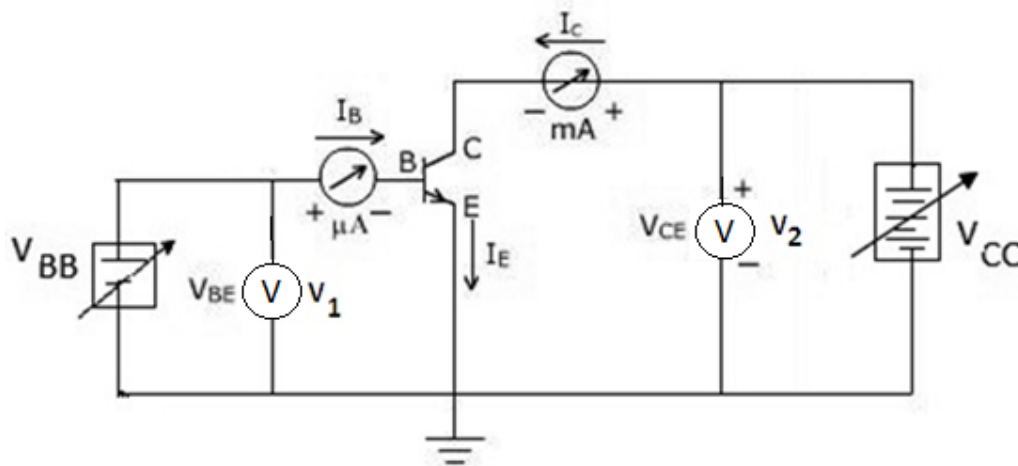

Figure 5.1: Circuit showing n-p-n transistor CE configuration
1. Start making the connections for NPN transistor in CE configuration as given in figure 5.1.
Figure 5.1 shows the circuit arrangement for plotting the static characteristics of N-P-N transistor in common emitter configuration. In this circuit battery V_{BB} provides the forward bias to emitter-base junction and the voltmeter V_1 is used to measure voltage V_{BE} . The micro-ammeter measure the base current I_B . a battery V_{CC} is connected between collector and emitter. The collector emitter junction is reversed biased and voltmeter V_2 measures the voltage V_{CE} and the milli-ammeter measures the collector current.